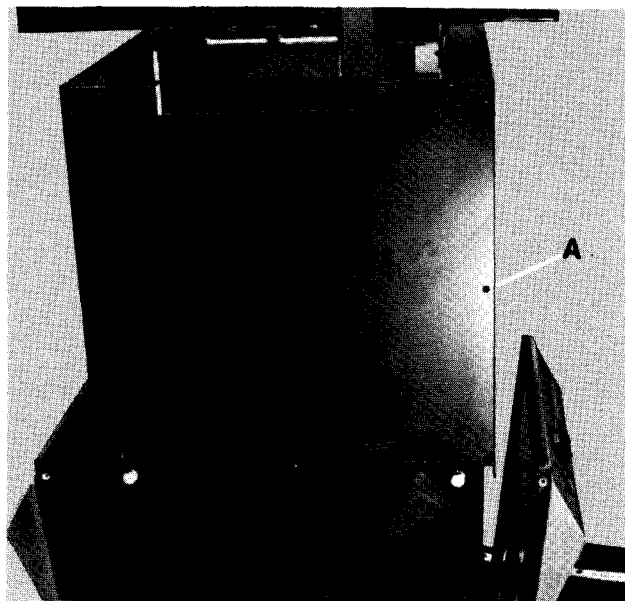

Fig. 15
- 1) Remove rear inner shroud by removing (8) screws, Item A, Fig. 15.
- 2) Replace rear inner shroud by placing shroud in position as shown in Fig. 15, aligning holes, and installing (8) # 6 x 3/8" screws, Item A, Fig. 15.